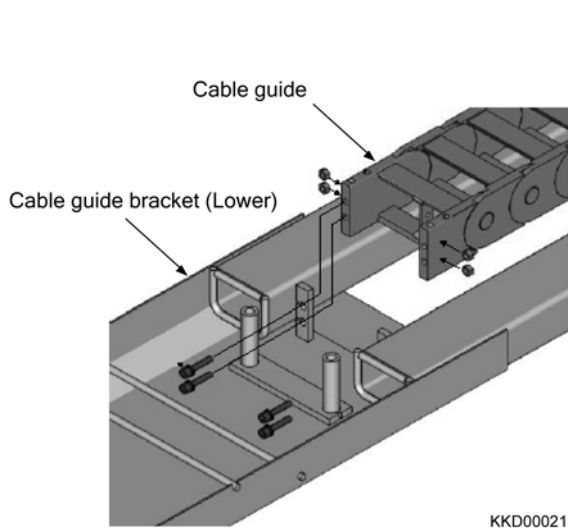

Fig. 2-46
- 25) Remove the cable guide from the cable guide bracket (Lower). (Fig. 2-46)